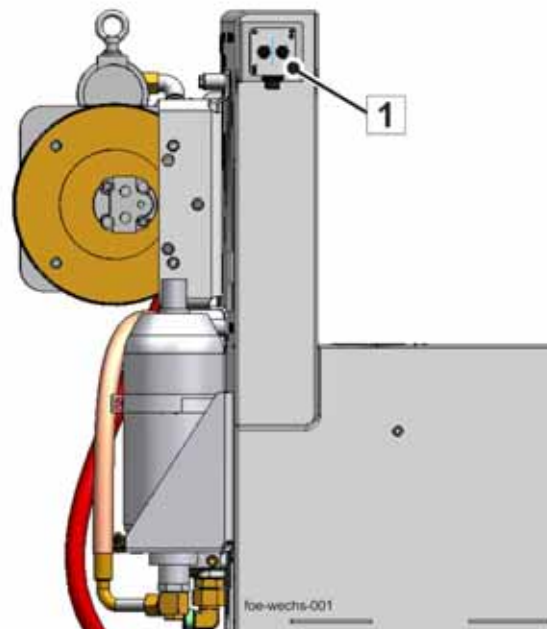

Fig. 84
Control of the concrete pump and the drive motor is transferred to the terminal box for the "Pumping piston change" operating mode (1) (**Fig. 84**), see ("**Pumping and differential cylinders, pumping piston change**" on page 481).